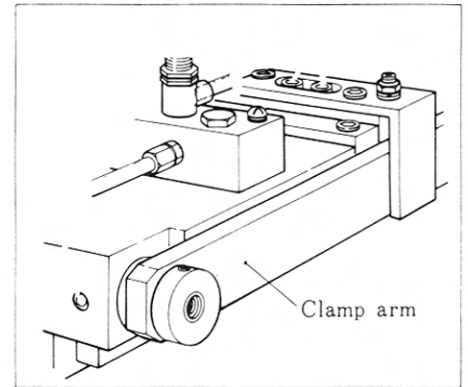

Figure 1
1. Carriage and Clamp Foot Alignment (Figures 1, 2, 3, 4, 5 and 6)